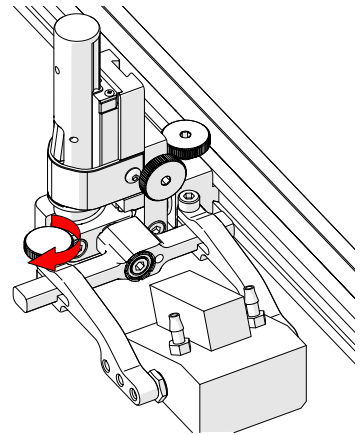

Fig. 67 - Tighten arm knob
6. Tighten the probe holder arm adjustment knob (Fig. 67).